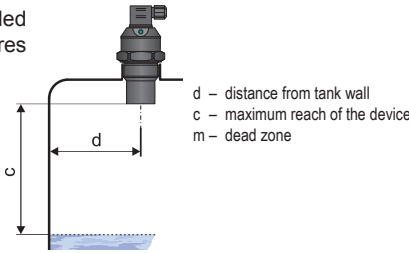

Fig. 3: Distance of the device from the tank wall
- b) The minimum dimensional parameters when installing into the lid or the ceiling of the tank are listed in Fig. 3.